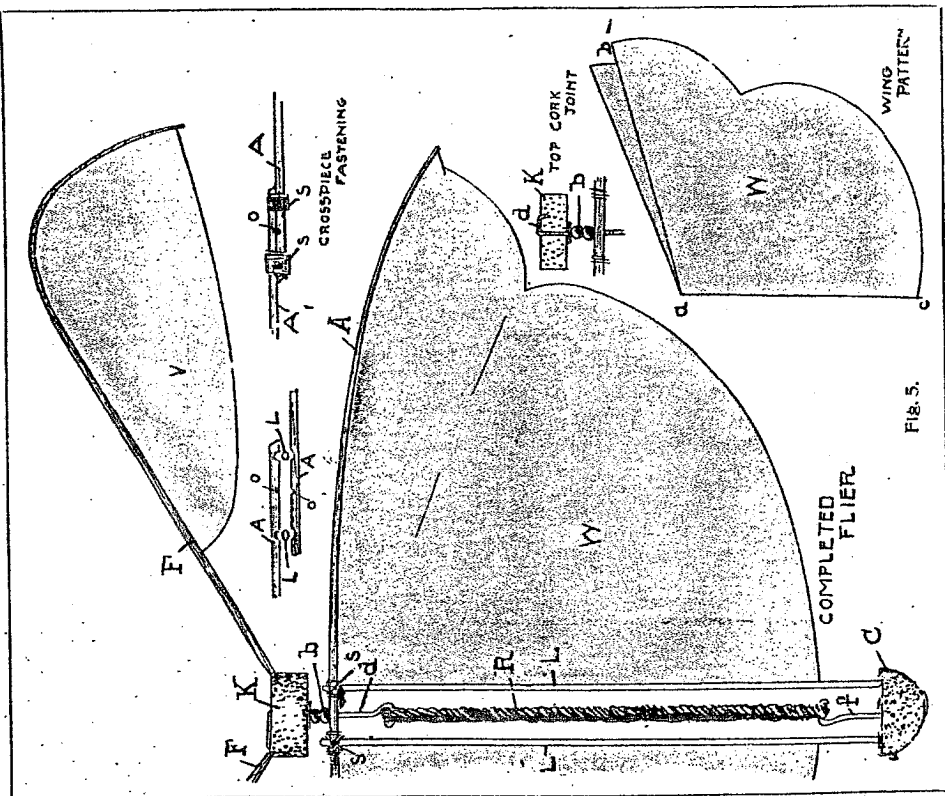

Fig. 5.
**B**EFORE starting the construction of a real gliding aeroplane with power plant, it will be a good scheme to build up one of the earlier types of flying machines—possibly the earliest model which ever flew by actual power. This is shown in Fig. 5, and the main part of this is the power plant. The drawing shows the dimensions which you will need to follow, and there is very little to tell concerning its construction except follow the shapes of the drawing exactly.
Now, in the top cork K fit the arms for the paper wings or propeller V. These arms F are made of bamboo seven and one-half inches long, split from a piece of fishing pole and are to be as big around as the sticks L which you made at first. By bending the bamboo between the fingers, you can curve these pieces to fit the curve shown in Fig. 5 and be sure that both pieces curve the same. Then cut two pieces of tissue paper just the shape of V in Fig. 5, making sure the two pieces are just the same. You can cut them both out at once, if you wish, using a folded paper, being sure that the curve of this paper, smear these sticks with liquid glue and lay them down on the paper V at the proper position and press them in place. When dry, these form the blades of the propeller, and they obtain their slant largely through the slack of the paper, as these curved pieces set practically in action.
The first part to make is the power plant shown in Fig. 5. First take a cork about one inch in diameter and cut it in two, down the middle. Then slice off the largest end from it, making this about one-quarter of an inch thick. One piece is shown at C in Fig. 5. Next cut out of straight grain spruce or pine wood, two sticks six inches long and about as big as the lead in an ordinary lead pencil. These are made from a piece of bamboo fishing pole, cut two pieces about one-sixteenth inch square, and tapered at one end, where it should be as large as the small end of a toothpick. This can be done by holding the piece on a sharpened plane. Hold it upside down in the left hand, and draw the stick over the cutting edge of the plane toward you, holding it down against the blade with the thumb of the hand holding the plane. The larger ends of the sticks are cut as shown in Fig. 5.
From a piece of bamboo fishing pole, cut two pieces about one-sixteenth inch square, and tapered at one end, where it should be as large as the small end of a toothpick. This can be done by holding the piece on a sharpened plane. Hold it upside down in the left hand, and draw the stick over the cutting edge of the plane toward you, holding it down against the blade with the thumb of the hand holding the plane. The larger ends of the sticks are cut as shown in Fig. 5.